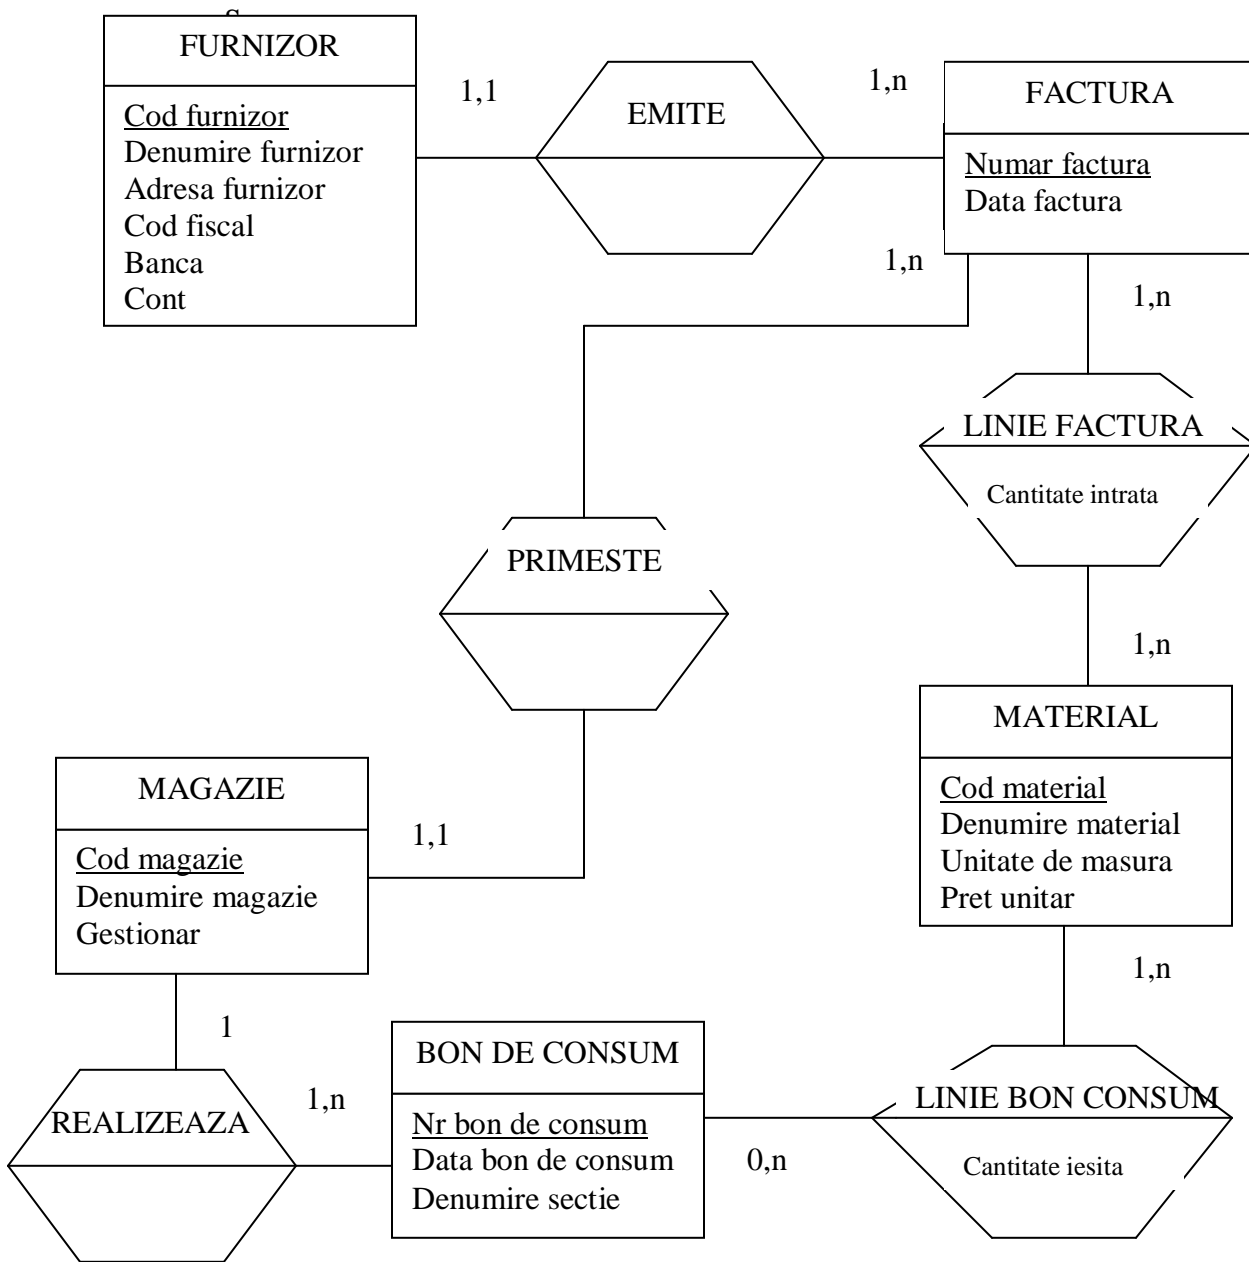

FIG.2 Modelul conceptual al datelor
I. MODELUL CONCEPTUAL AL DATELOR (fig.2)